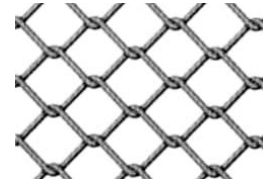

Figure 7.41
1. Open the `Chain Link Opacity Map.max` file in the Texture Scene Files folder on the companion CD. Open the Material Editor and select a sample slot. First, you are going to add a bitmap to the diffuse color, so go to the Maps rollout. Select the bar next to Diffuse Color. Pick Bitmap from the Material/Map browser and navigate to the Texture Scene Files folder on the CD. Choose `Chain Link.tif` (shown in Figure 7.41).